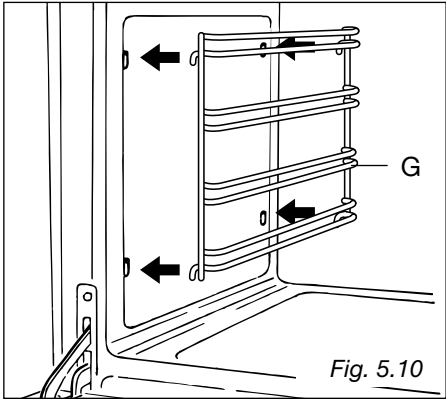

Fig. 5.10
- Hang up the wire racks "G" on the oven walls (fig. 5.10).